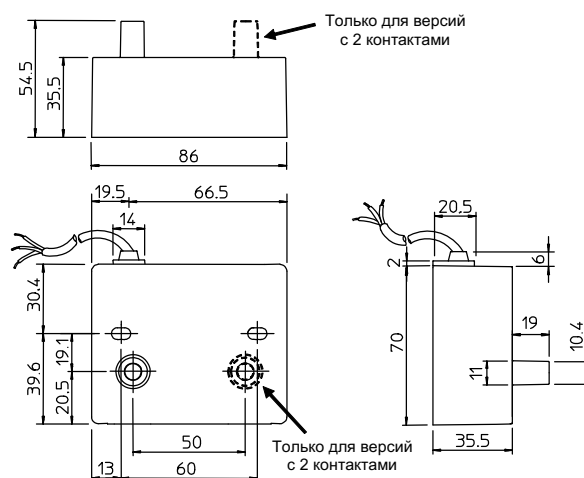

Рис. 2
- S: Выход(ы) снизу (Рис. 2 и 4);
- Diagram description: The diagram shows a power supply unit (PSU) connected to a device. The PSU has a power cord (C) and a power connector (P). The device has a power input (V) and a power output (L or S). The connection is shown with lines indicating the flow of power from the PSU to the device.